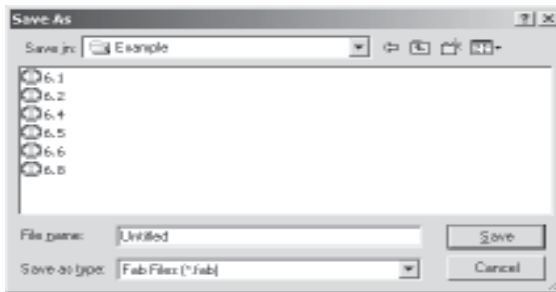

Fig. 4.7 Open an existing field dialogue box
2. Click to open the **dialogue box**, as shown in Fig 4.7